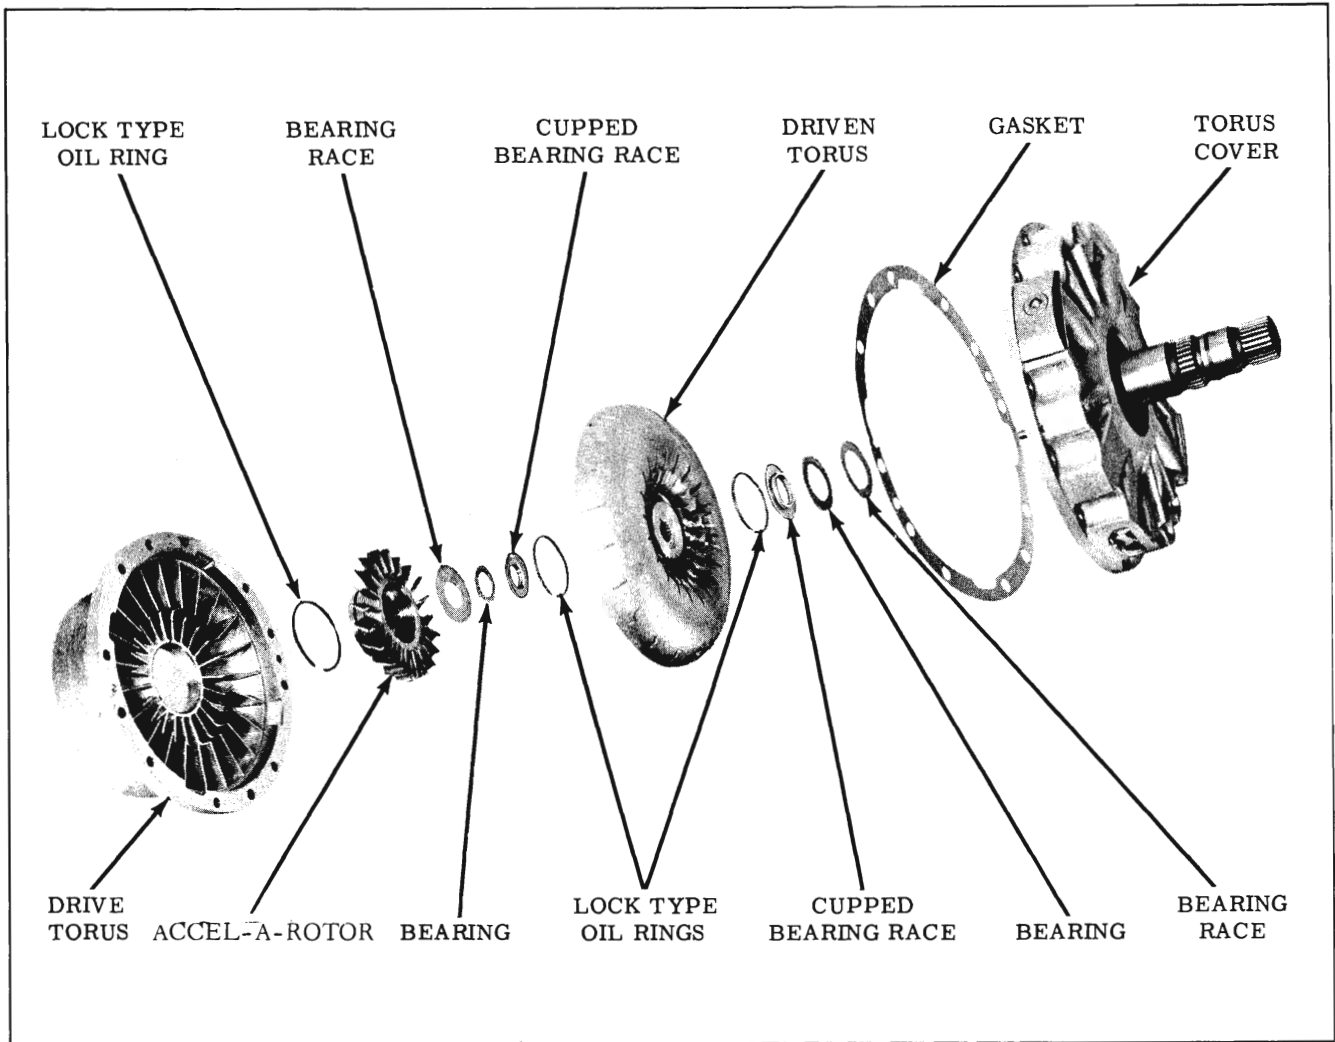

Fig. 3-309 Front Unit Assembly
42. Install flat bearing race, bearing and cupped race (cup facing torus cover) into torus cover, retain with petrolatum. (Fig. 3-309)